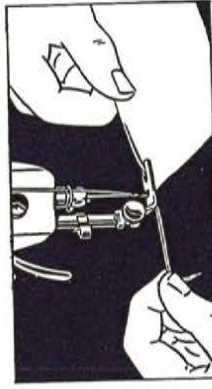

Fig. 36. Starting a Hem at the Edge
3. Raise hemmer. Pull threads and hem slightly from you with left hand, then, while holding threads, draw material toward you with right hand into scroll of hemmer until tacked end is caught in hemmer, as shown in Fig. 36.